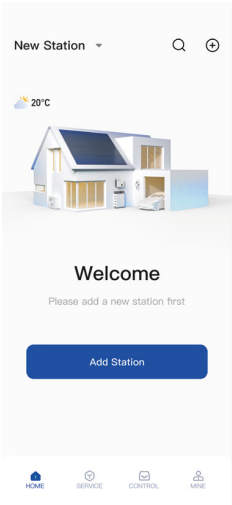

Fig. 5
- Tap **"Add station"** on the page, as shown in Fig. 5.